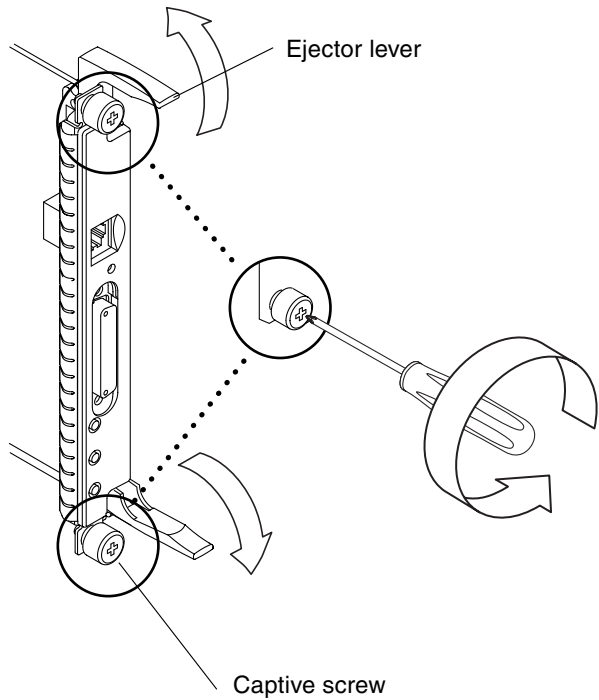

FIGURE 7-8 Loosening the Captive Screws and Ejector Levers
5. **Loosen the two captive screws (FIGURE 7-8) on the System Controller board by using a Phillips No. 2 screwdriver.**
6. **Pull outward on the board ejectors to unseat the board (FIGURE 7-8).**
4. **Loosen the two captive screws (FIGURE 7-8) on the System Controller board by using a Phillips No. 2 screwdriver.**
5. **Pull outward on the board ejectors to unseat the board (FIGURE 7-8).**